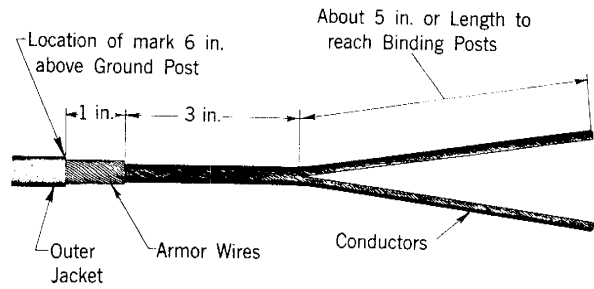

Fig. 7 — Prepare Ends of First Two Wires
- (b) Pull the slack from the first two D Underground Wires and mark the outer jacket about 6 inches above the ground post. Prepare the ends of the wires as illustrated in Fig. 7.